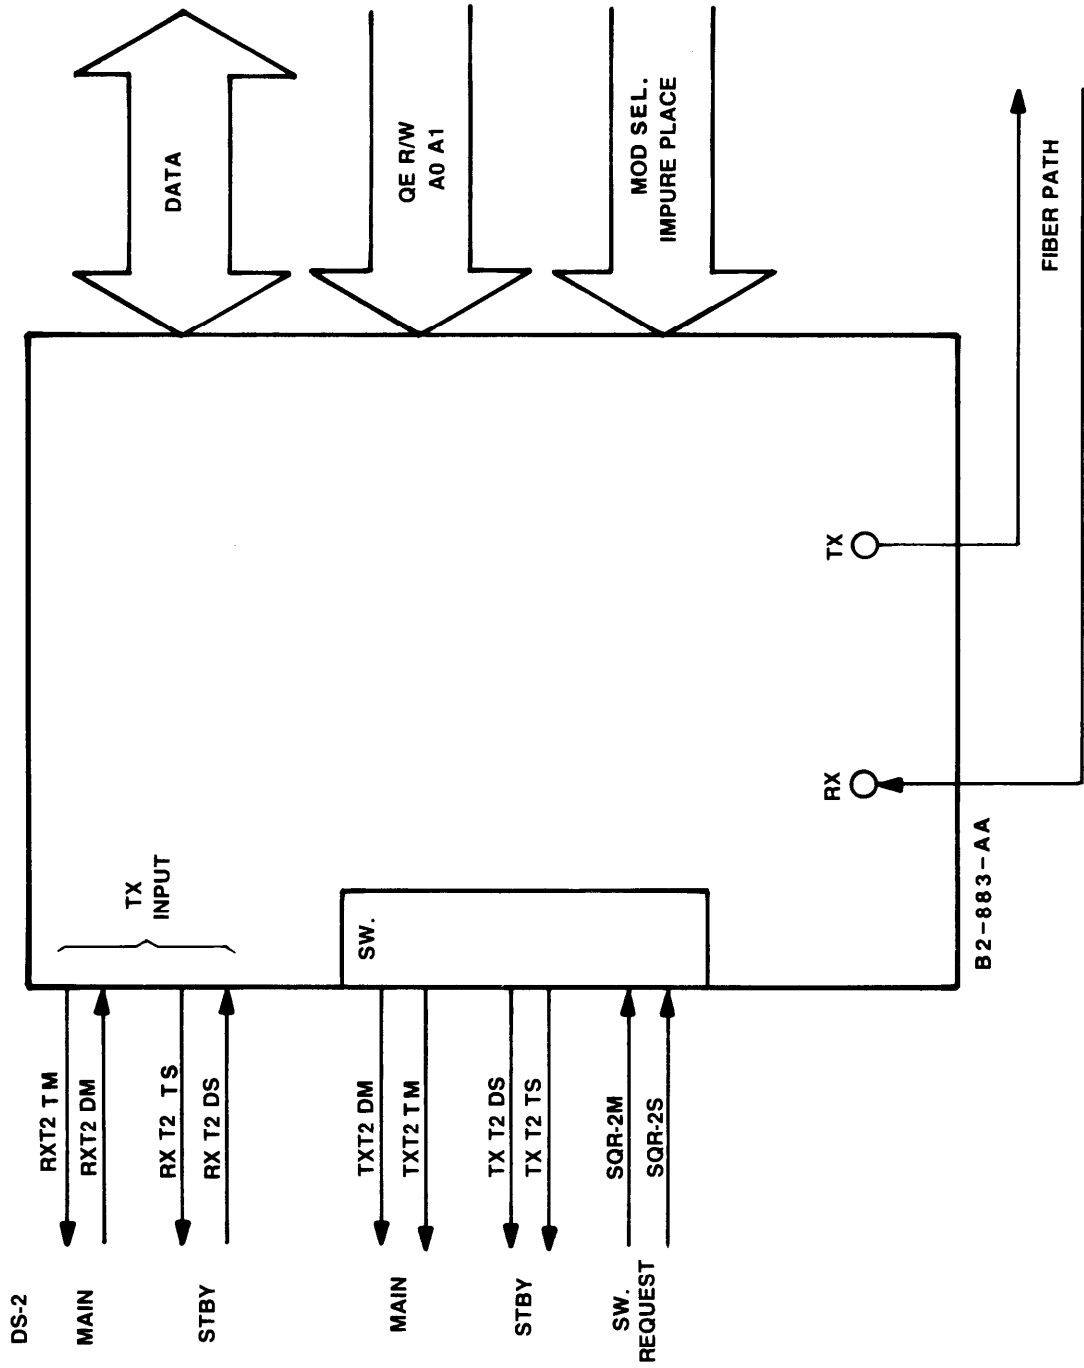

Figure 3. LTU Card Signal Diagram
3.01 Refer to Figure 3, the LTU card signal diagram. There are two classes of interfacing signals, those to the backplane, and those from the card surface itself.